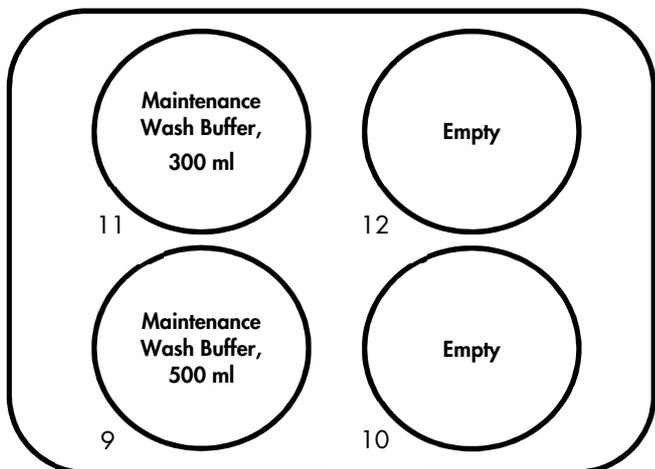

Figure 8. Loading 1 liter bottles containing Maintenance Wash Buffer.
7. Load the Maintenance Wash Buffer bottle that was used for aliquoting in the previous step (containing approximately 300 ml remaining volume) onto position 11 in the GeneReader. Load the bottle containing 500 ml Maintenance Wash Buffer onto position 9 (Figure 8).